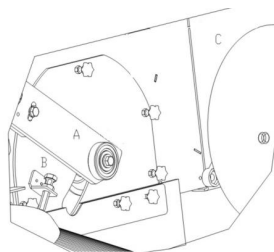

Figure 7
5. Adjust the bolt B to limit the adjustment height of the main brush (Figure 7).